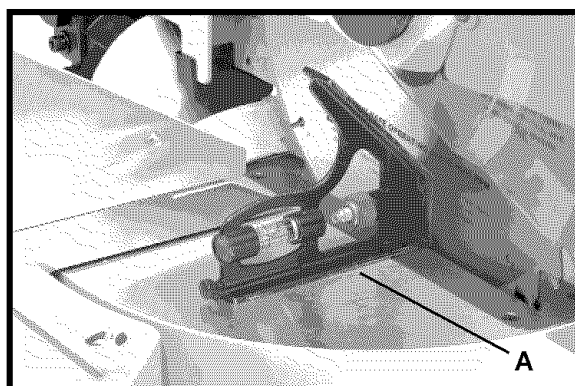

Fig. 23
3. Place one end of a square (A) Fig. 23 on the table and the other end against the blade. Check to see if the blade is 90 degrees to the table (Fig. 23).